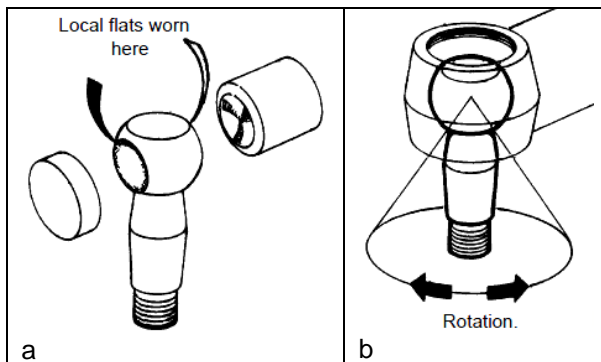

FIGURE 25: BALL PIN HAS LOCAL WORN FLATS
If ball pin does not rotate when re-adjusted in line with above instructions, this suggests that ball pin has local worn flats as shown in FIGURE 25 (a). In this instance ball pin, thrust cup and rubbing pad MUST be replaced, if not FAILURE could occur in service, i.e. ball pin not being able to move in assembly when turning from lock to lock as shown in FIGURE 25 (b).
**NOTE: If ball pin does not rotate when re-adjusted in line with above instructions, this suggests that ball pin has local worn flats. In this instance ball pin, thrust cup and rubbing pad MUST be replaced, if not FAILURE could occur in service, i.e. ball pin not being able to move in assembly when turning from lock to lock (see FIGURE 25).**